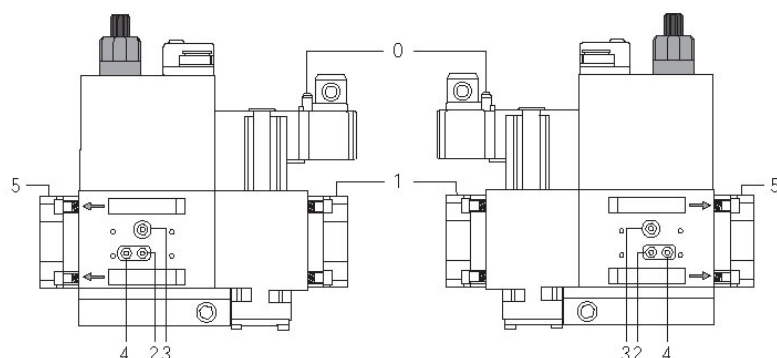
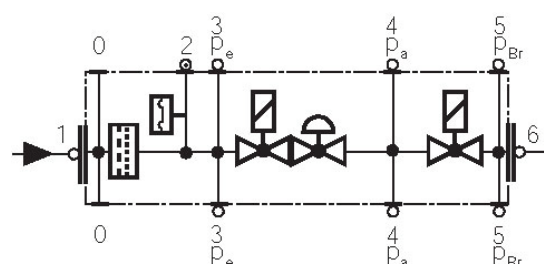

Fig. 16
Fig. 17
- Change the filter if the pressure difference between pressure connection 1 and 2 (Fig. 16-Fig. 17) $\Delta p > 10$ mbar.
- Change the filter if the pressure difference between pressure connection 1 and 2 (Fig. 16-Fig. 17) is twice as high compared to the last check.